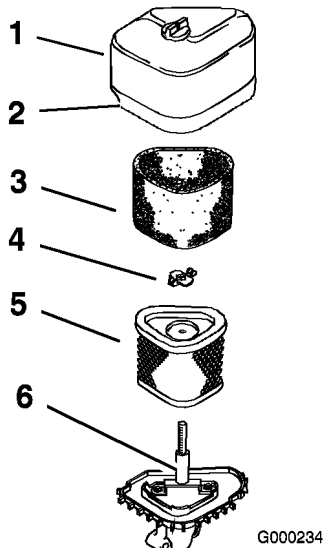

Figure 26
2. Clean around the air cleaner to prevent dirt from getting into the engine and causing damage. Unscrew the cover nut and remove the air cleaner cover (Figure 26).
3. Remove the air cleaner assembly (Figure 26).
4. Carefully slide the foam element off the paper element (Figure 26).
1. Carefully slide the foam element onto the paper air cleaner element (Figure 26).
2. Place the air cleaner assembly onto the air cleaner base (Figure 26).
3. Install the air cleaner cover and secure with cover nuts (Figure 26).